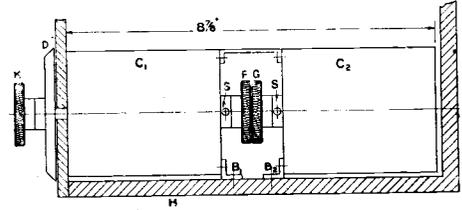

Fig. 6. The double tuning condenser.
0.001 μ F maximum capacity. In order to reduce the tuning operations when using this set, these two condensers should be coupled together so that they can be controlled by a single knob. This was done by providing an insulating coupling between the two condenser spindles as sketched in Fig. 6. The vertical ebonite panel on which the whole set is assembled, is secured to the horizontal base of the instrument H of 5/16 in. wood. This base should be 9 1/2 ins.
screws S S (Figs. 6 and 7) screwed hard on to the spindles. By loosening one of these screws it is possible to adjust the movable vanes of one condenser relative to the